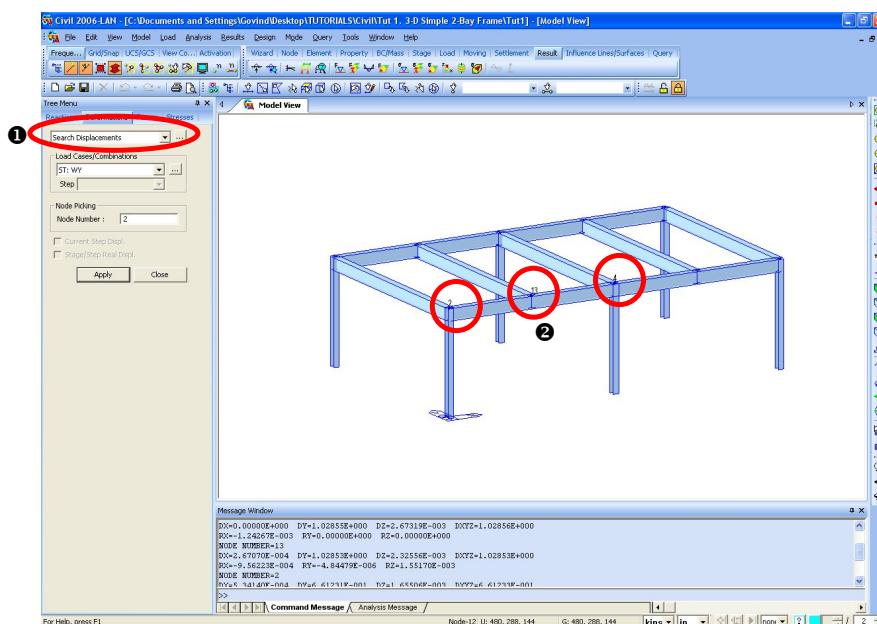

Figure 1.28 Verification of Displacements at Specific Nodes
1. Select **Search Displacement** from the functions selection field (Fig.1.28–①).
3. Select nodes **2, 4 and 13** with the mouse (Fig.1.28–②).